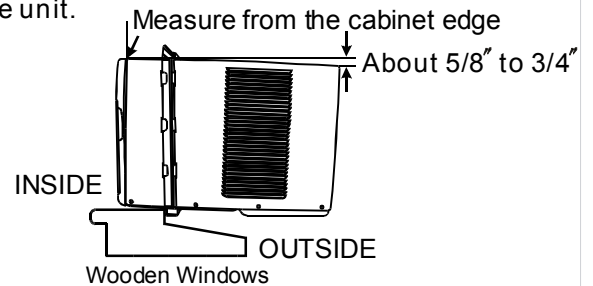

Fig. 5
- A. Keep a firm grip on the air conditioner, carefully place the unit into the window opening so the bottom of the air conditioner frame is against the window sill (Fig. 5). Carefully close the window behind the top rail of the unit.